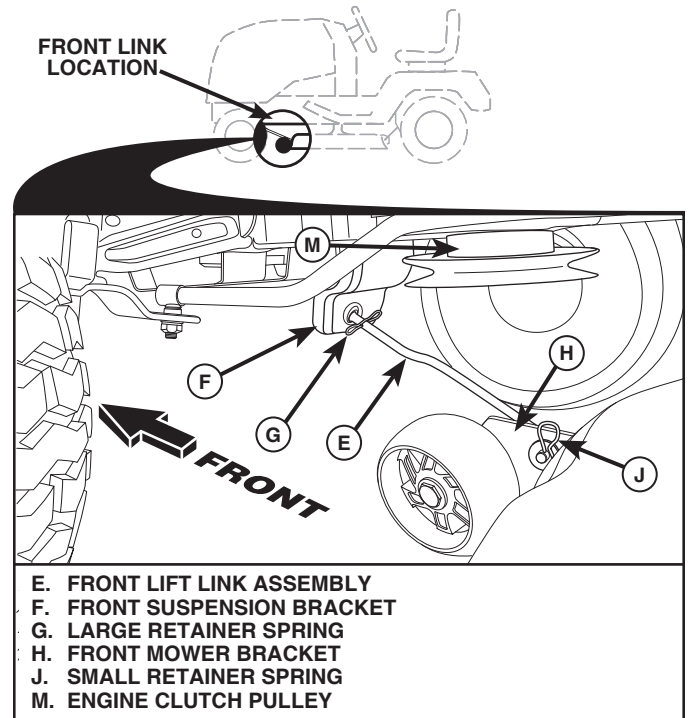

Fig. 38
## 8 ATTACH FRONT LINK (E) (See Fig. 38)
- From front of tractor, insert rod end of front link (E) through front hole in tractor front suspension bracket (F).
- Move to left side of mower and and insert large retainer spring (G) through hole in front link (E) behind front suspension bracket (F).
- Insert other end of link (E) into hole in front mower bracket (H) and secure with washer and small retainer spring (J).